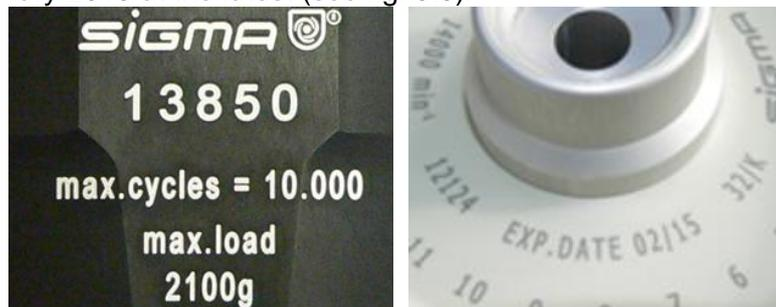

Fig. 5.9: Different service life – engraving on the bucket/rotor
- **If other data concerning the service life are engraved on the rotor or bucket, these data shall apply accordingly:** For example, a bucket with the engraving “max cycles = 10,000” has a service life of 10,000 cycles, and a rotor with the engraving “Exp.Date 02/15” must be scrapped in February 2015 at the latest (see fig. 5.9)!